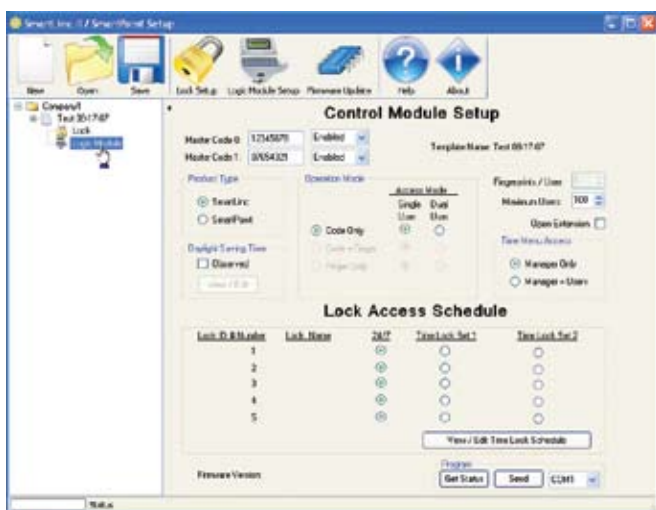
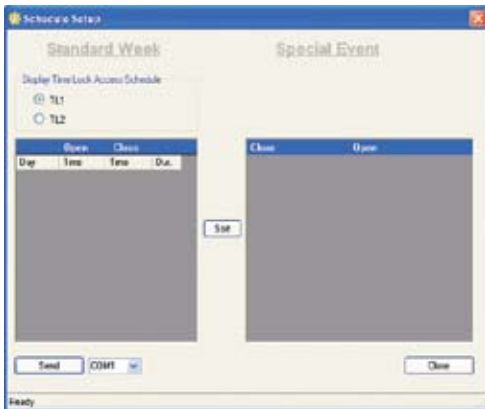

Figure 22
Figure 36
To set up the logic module, click on the **Logic Module Setup** button at the top of the screen or the Logic Module icon on the left side in the tree (Figure 22). A window with the default configuration will appear. In this window select the features to be enabled on the Logic Module.
- If the system will be set up in a place where Daylight Savings Time is observed, check the **Observed** box (Figure 28). There is a default Daylight Savings Time setup, however, the dates can be changed by clicking the **View/Edit** button (Figure 22).
To set up Time Lock, click on the **View/Edit Time Lock Schedule** button on the opening screen of the Logic Module setup (Figure 22). A window with the default configuration will appear (Figure 36). This window allows the setup of **Standard Week** and **Special Events Time Lock**. It is possible to set up two different Time Lock periods.